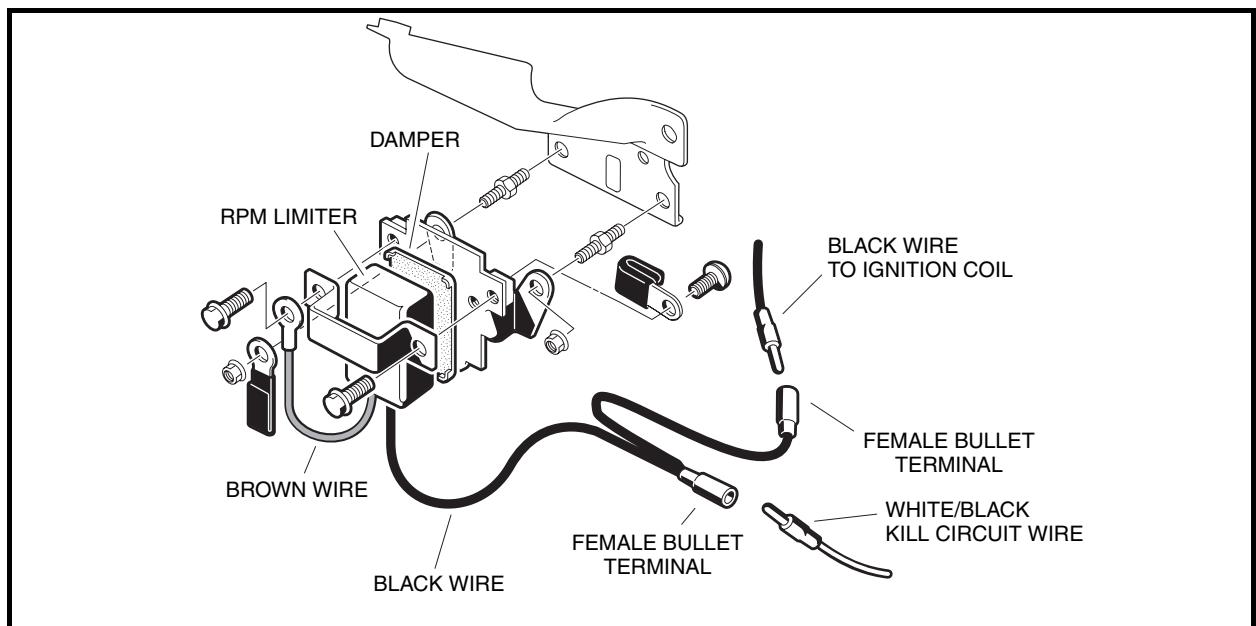

Figure 14-23 RPM Limiter
3. Disconnect the white/black wire from the black wire at the bullet connector located near the RPM limiter (**Figure 14-23, Page 14-22**).
5. Remove the flange-head bolts from the RPM limiter band and remove the RPM limiter and damper (**Figure 14-23, Page 14-22**).
1. Place the RPM limiter damper on the front of the RPM limiter mounting bracket (**Figure 14-23, Page 14-22**).